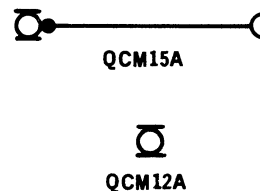

Fig. 3 — QCM15A and QCM12A Connectors
- (a) If more connection positions are required than are available, use QCM15A connectors (Fig. 3) for the additional positions.
- (b) If no terminal is available for the connection of two spade-tipped leads, use a QCM12A connector (Fig. 3).